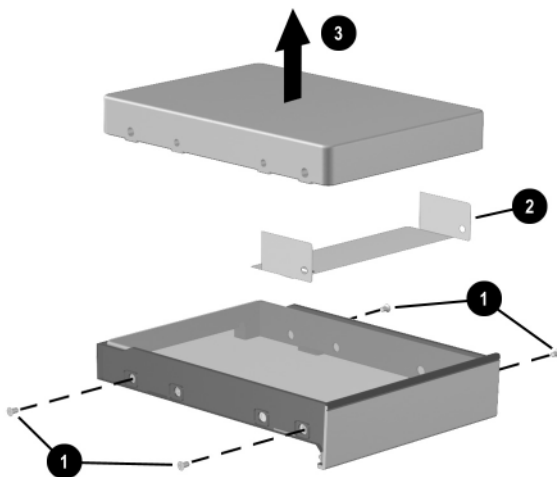

Figure 5-4. Removing the Hard Drive from the Hard Drive Sleeve
- a. Remove the four black M3 × 4 screws ❶ that secure the hard drive to the hard drive sleeve (Figure 5-4).
- b. Lift the hard drive straight up to remove it from the hard drive sleeve ❷.
- c. Note the orientation and position of the hard drive shield ❸ when removing the hard drive from the hard drive sleeve.